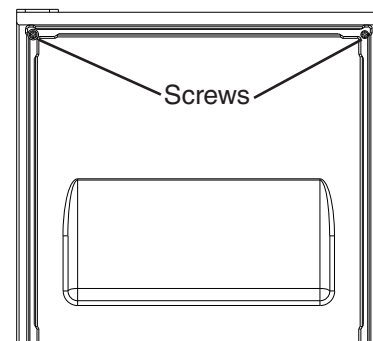

Fig. 14
- 2) Temporarily fasten the overlay panel to the door using 2 of the M4x25 pan head screws provided. See Fig. 14.